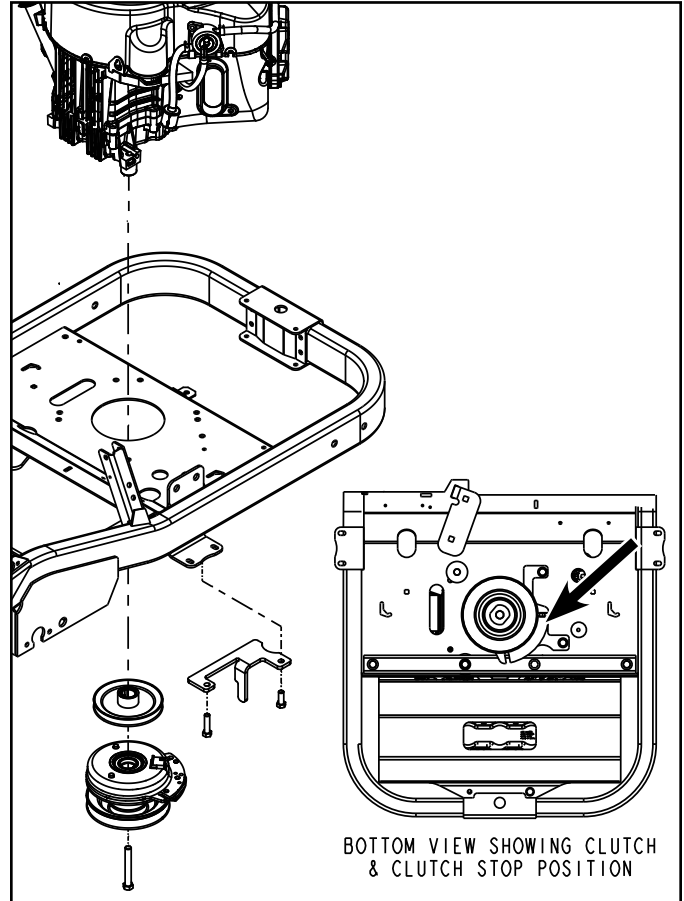

Fig. 070
6. Install the PTO clutch. Be sure the PTO clutch stop bracket is properly engaged into the clutch slot (Fig. 070).